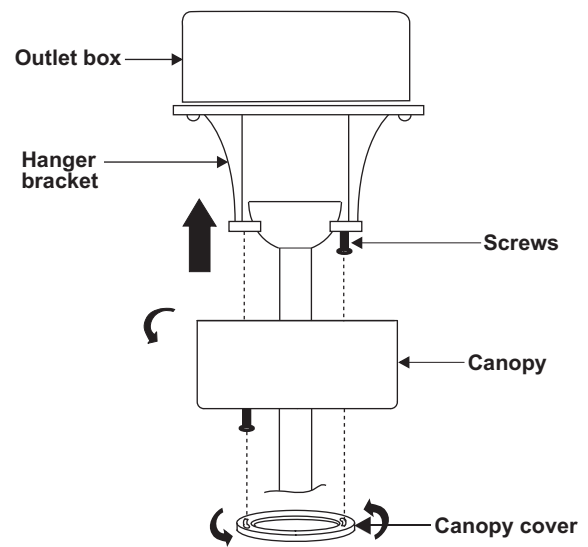

Figure 13
1. Connect the fan supply (black) wire to the black household supply wire as shown in Figure 13.
2. Slide the canopy up to hanger bracket and place the key hole on the canopy over the screw on the hanger bracket, turn canopy until it locks in place at the narrow section of the key holes. (Fig. 13)